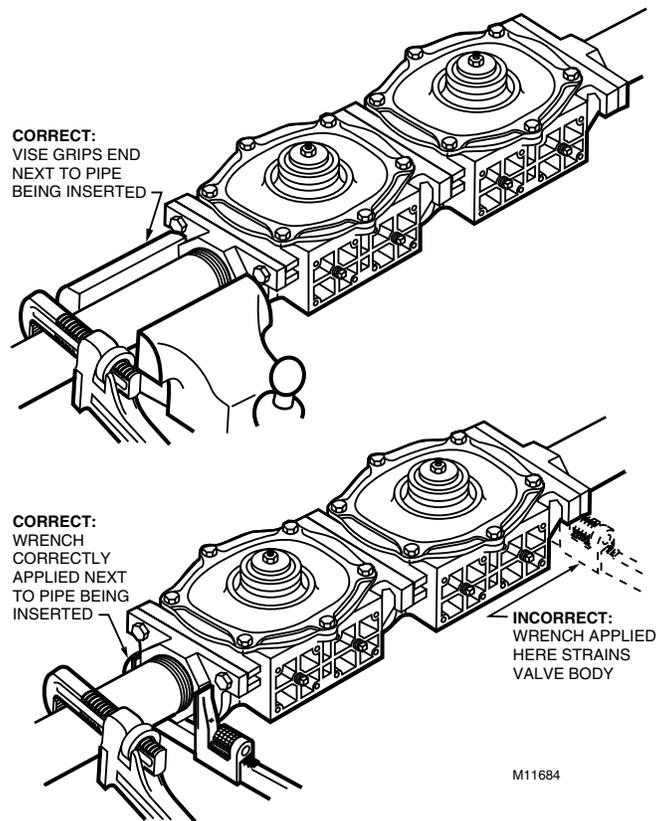

Fig. 7. Completing the valve train.
Completing the Assembly (Fig. 7):
2. Apply a parallel jaw wrench only to the pipe adapter flat next to the pipe being inserted (Fig. 7). A wrench applied to the valve body itself, or to the end farthest from the pipe being inserted, can distort the casting, causing a malfunction. Do not use the valve as a lever.